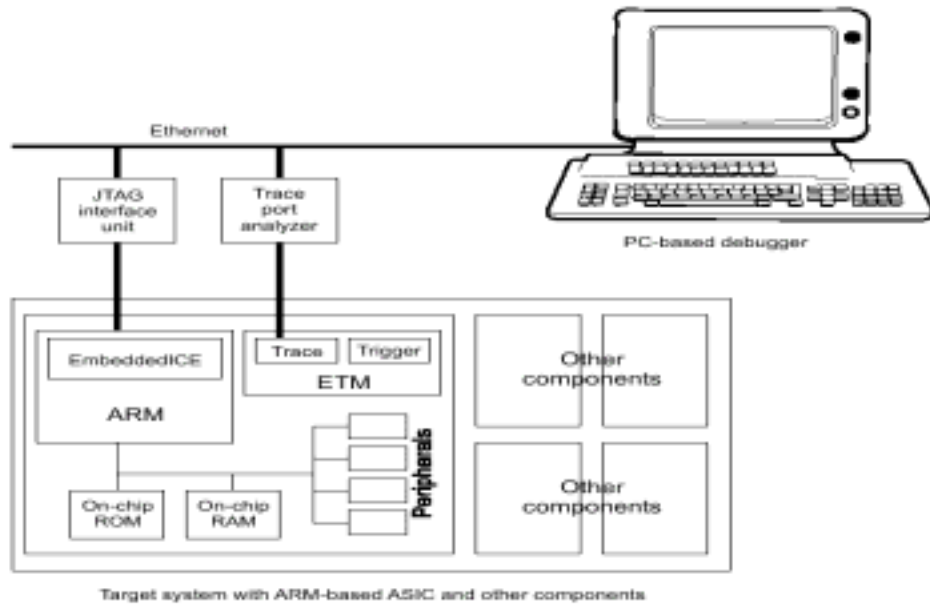

Figure 2 Debugging connection
4. Configure the server. This can usually be done using the Autoconfiguration command. Select **File -> Auto-configure** and wait until the server has examined the target. If the configuration works, the screen looks similar to Figure 2.